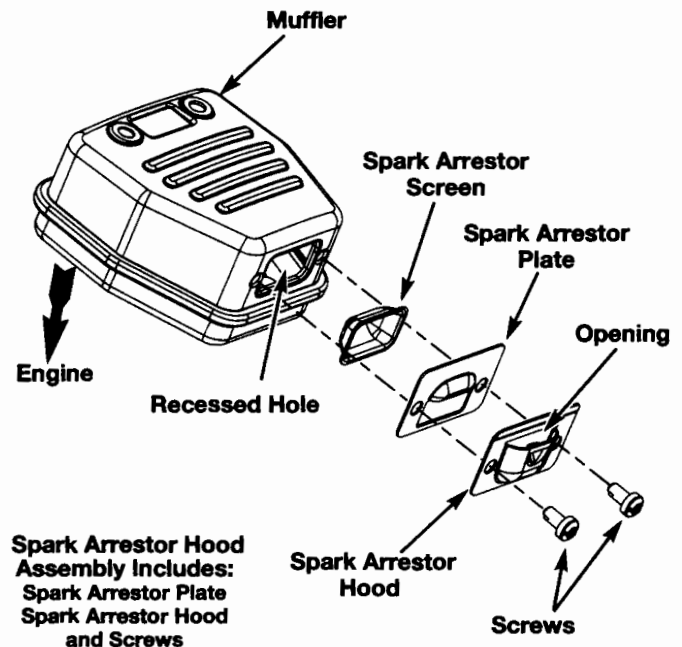

Fig. 41
2. Locate the muffler, but do not remove it. Find the two (2) screws on the bottom of the muffler (Fig. 41). These two screws hold the Spark Arrestor Hood Assembly and the spark arrestor screen to the bottom of the muffler. Remove the two (2) screws using either a torx #20 or flat blade screwdriver.
6. Place the spark arrestor plate on top of the spark arrestor with the "raised" side up and the opening facing towards the engine (Fig. 41).
7. Place the spark arrestor hood on top of the spark arrestor plate with the "raised" side up and the opening facing AWAY from the engine (Fig. 41). Verify that the exhaust will be directed AWAY from the engine.